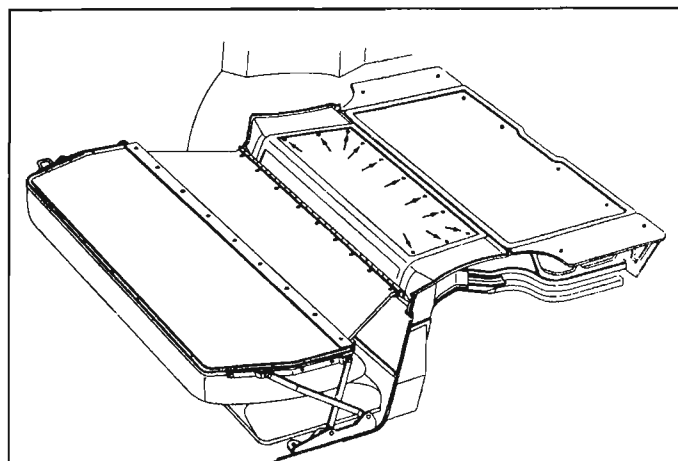

Fig. 10-109—Heat Exchanger Opening Cover Attaching Screws
3. Remove screws securing heat exchanger opening cover to floor pan supports (fig. 10-109) and remove cover assembly from body.